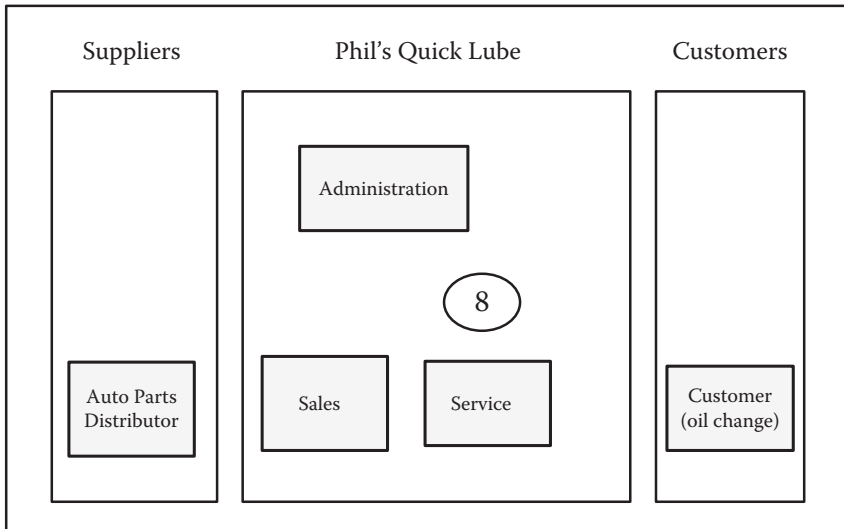

Figure A.7 “Parts” of Phil’s Quick Lube arranged to show Order to Delivery sequence (oil change).
8. Draw each *unique* part from the S-C template in the corresponding portion of the relationship map template (Figure A.7).